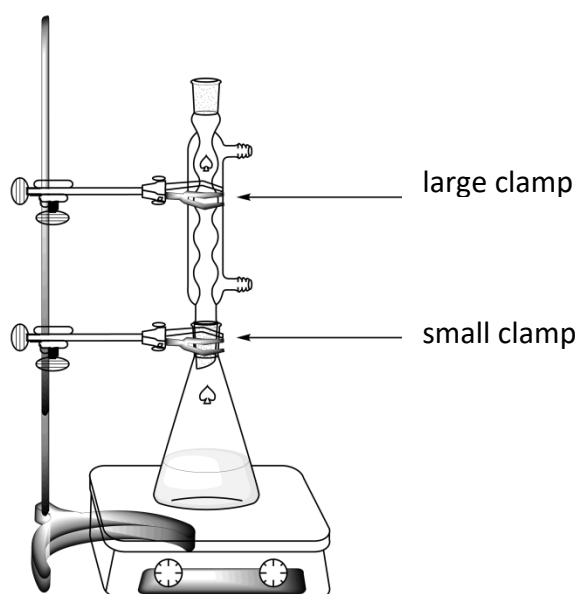

Figure 1. Setup for heating the reaction mixture under reflux
- Attach** the reflux condenser by loosening the large clamp and adjusting the ground joints (see Figure 1). **Raise** your HELP card. A lab assistant will come to turn on the water and set the hotplate.
2. **Perform** the recrystallization of the crude product contained in the 50 mL ground-joint Erlenmeyer flask with the appropriate amount of this water/ethanol mixture, using the same setup as for the reflux heating (see Figure 1). **Raise** your HELP card. A lab assistant will come to turn on the water and set the hotplate. **Add** the solvent by the top of the condenser, if needed.